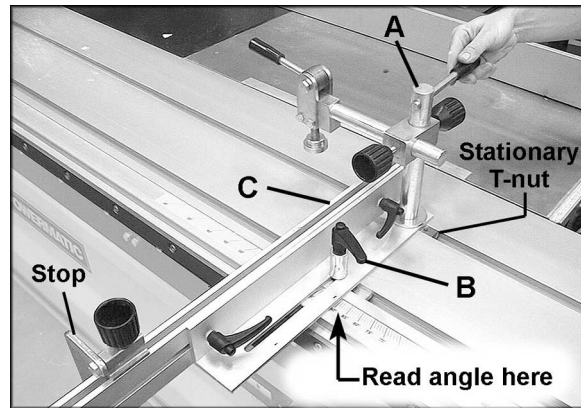

Figure 32
1. To set the required angle, loosen the rod (A, Figure 32) with the provided pin as shown. Loosen the large lever (B, Figure 32).
2. To slide the fence (C, Figure 32) toward or away from the saw blade, unlock the two smaller levers.
3. Reading the angle is done at the edge of the aluminum bracket. An adjustable stop can be mounted to the miter fence as shown in Figure 32, for making multiple cuts of the same length.